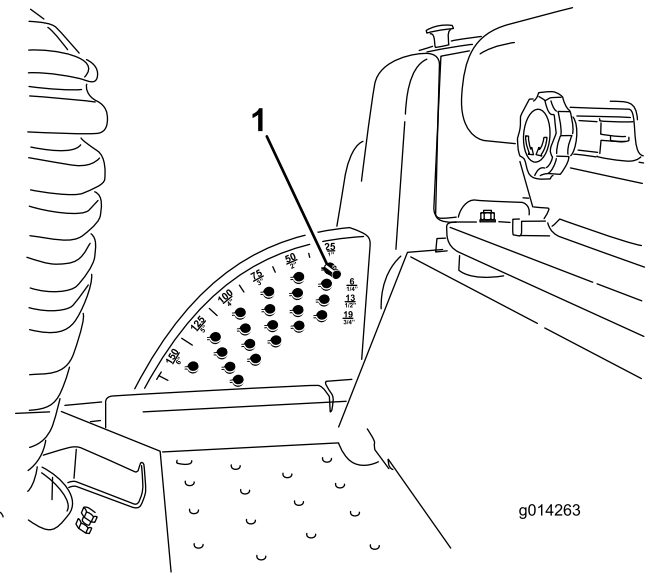

Figure 25
1. With the engine running, push back the deck-lift switch until the mower deck is fully raised, and **release the switch immediately** as shown in Figure 25.
2. Rotate the height-of-cut pin until the nub on it lines up with the slots in the holes in the height-of-cut bracket and remove it (Figure 25).
3. Select a hole in the height-of-cut bracket corresponding to the desired height of cut, insert the pin, and rotate it down to lock it in place (Figure 25).
Note: There are 4 rows of hole positions (Figure 25). The top row gives you the height of cut listed above the pin. The second row down gives you the height listed plus 6 mm (1/4 inch). The third row down gives you the height listed plus 12 mm (1/2 inch). The bottom row gives you the height listed plus 18 mm (3/4 inch). For the 15.8 cm (6 inches) position, there is only 1 hole, located in the second row. This does not add 6 mm (1/4 inch) to the 15.8 cm (6 inches) position.